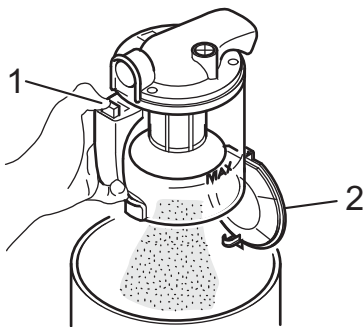

Fig.19
5. Push the release button (Fig. 19/1). The base (Fig. 19/2) opens and the dust runs into the dustbin.